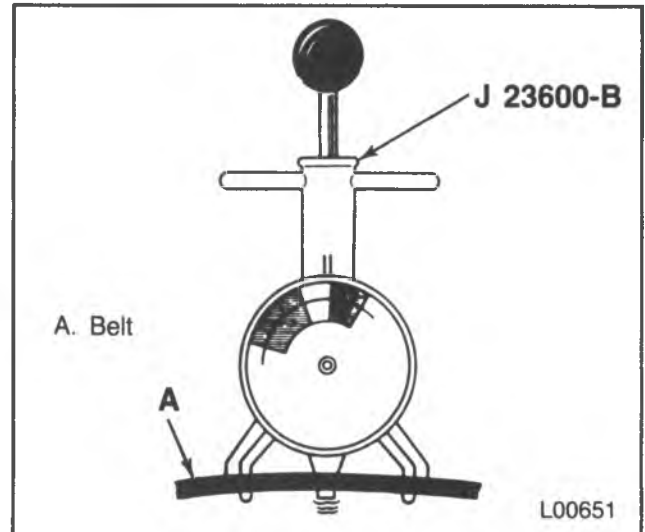

Figure 7 — Checking Drive Belt Tension
1. Place belt tension gage J 23600-B or equivalent midway between the pulleys on drive belts being checked (figure 7).